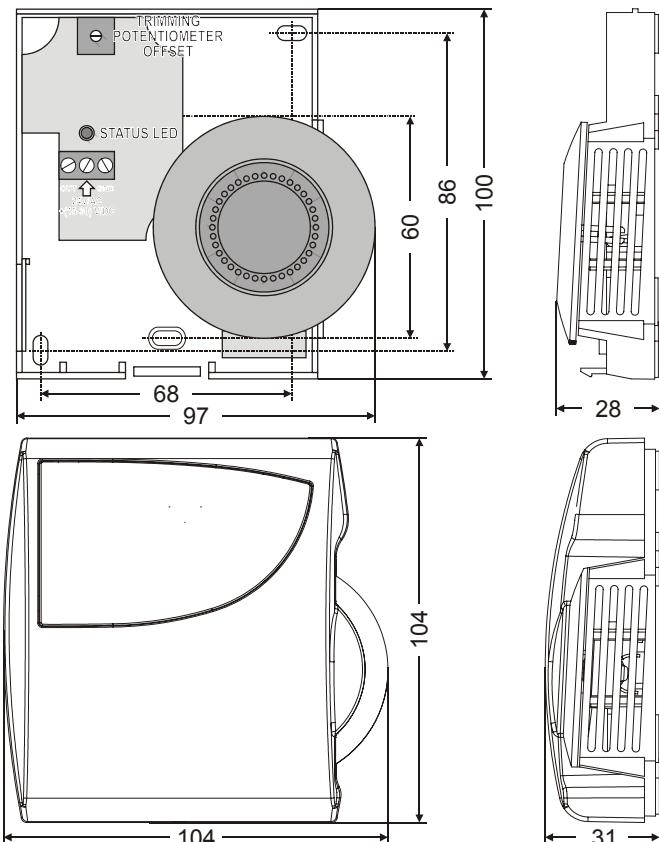

Fig. 3. Dimensions, mounting holes (mm)
Weight /Dimensions	approx. 125 g / see Fig. 3
- Mount the sensor onto the wall outlet box or bore wall holes as specified in Fig. 3 and mount the wall module with appropriate screws.
- Insert wire in required terminal location (see Fig. 3) and tighten the screw to complete the termination.